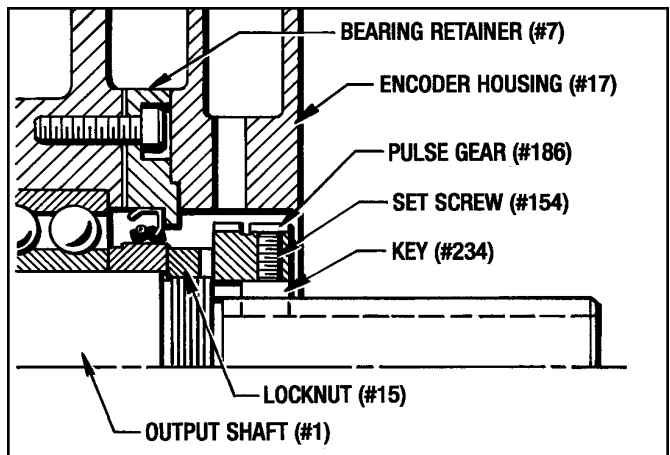

Figure 9.17 - Pulse Gear Alignment (#03 & #05 Posidyne)
- Slide the Pulse Gear (#186) onto the output shaft, until it butts up against the Locknut (#15). Align the Set Screw (#154) with the Key (#234) and tighten Set Screw (#154). (See Figure 9.17)